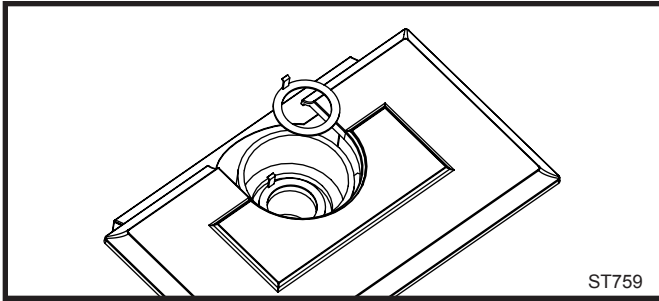

Fig. 16 Install the restrictor plate only if required for the venting configuration. Refer to Page 8.
- 1. Install the Restrictor Plate.** Consult the 'Vent Run Specifications' on Page 8 to determine whether the restrictor plate is needed. If so, put the restrictor plate in place within the inner flue collar as shown in Figure 16.
1. **Install the Restrictor Plate.** Consult the 'Vent Run Specifications' on Page 8 to determine whether the restrictor plate is needed. If so, put the restrictor plate in place within the inner flue collar. (Fig. 16)